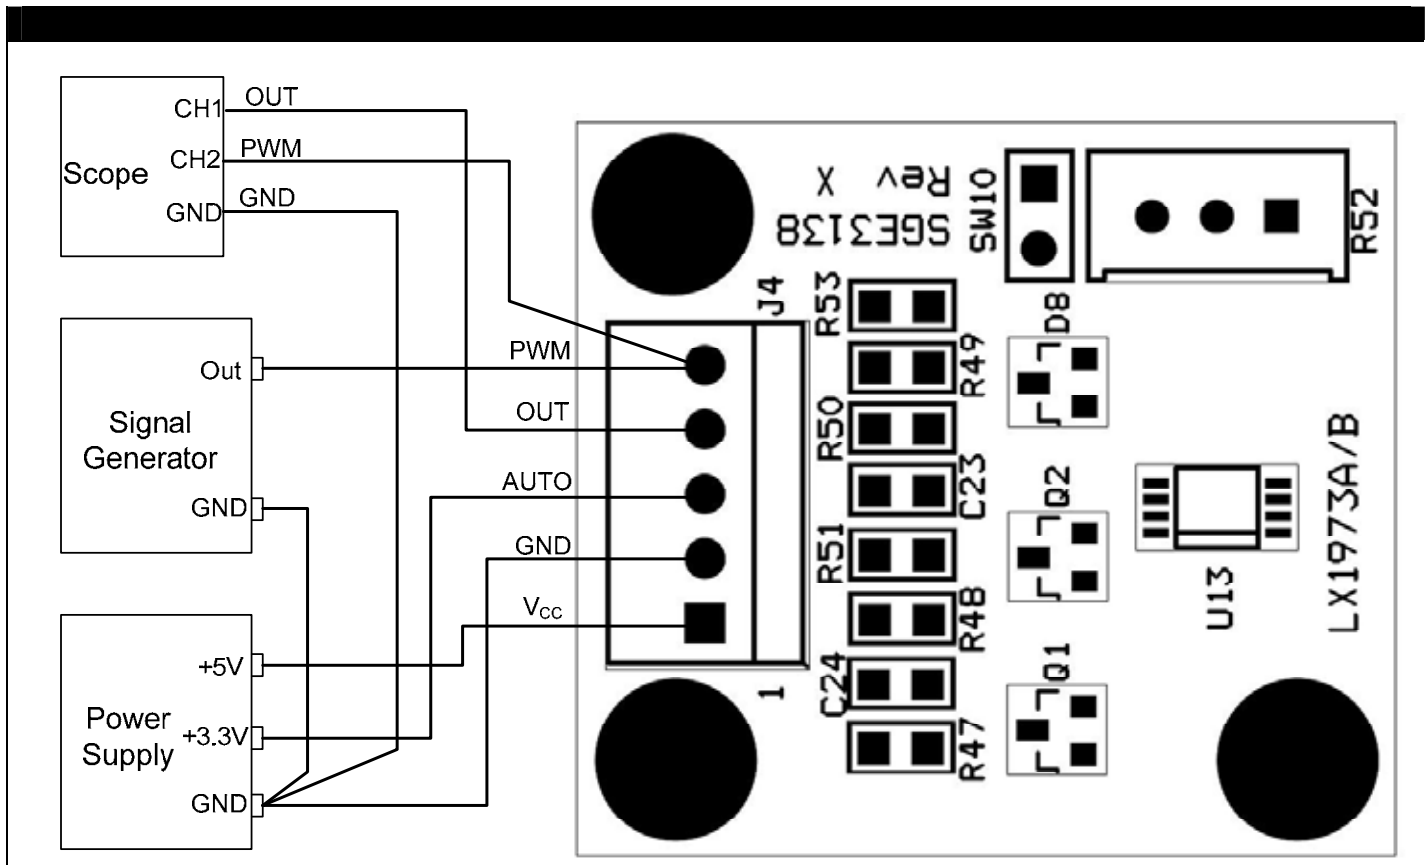

Figure 4 - LX1973A Eval Typical Test Hookup
Connections: The LX1973A Evaluation Board has a 5-pin connector connecting to outside power and signals. The connection pin names and functions are listed below. Figure 4 is a suggested test connection diagram.
- 1) Make connections as shown in Figure 4. Apply 5V power source to the board. Measure Pin 1